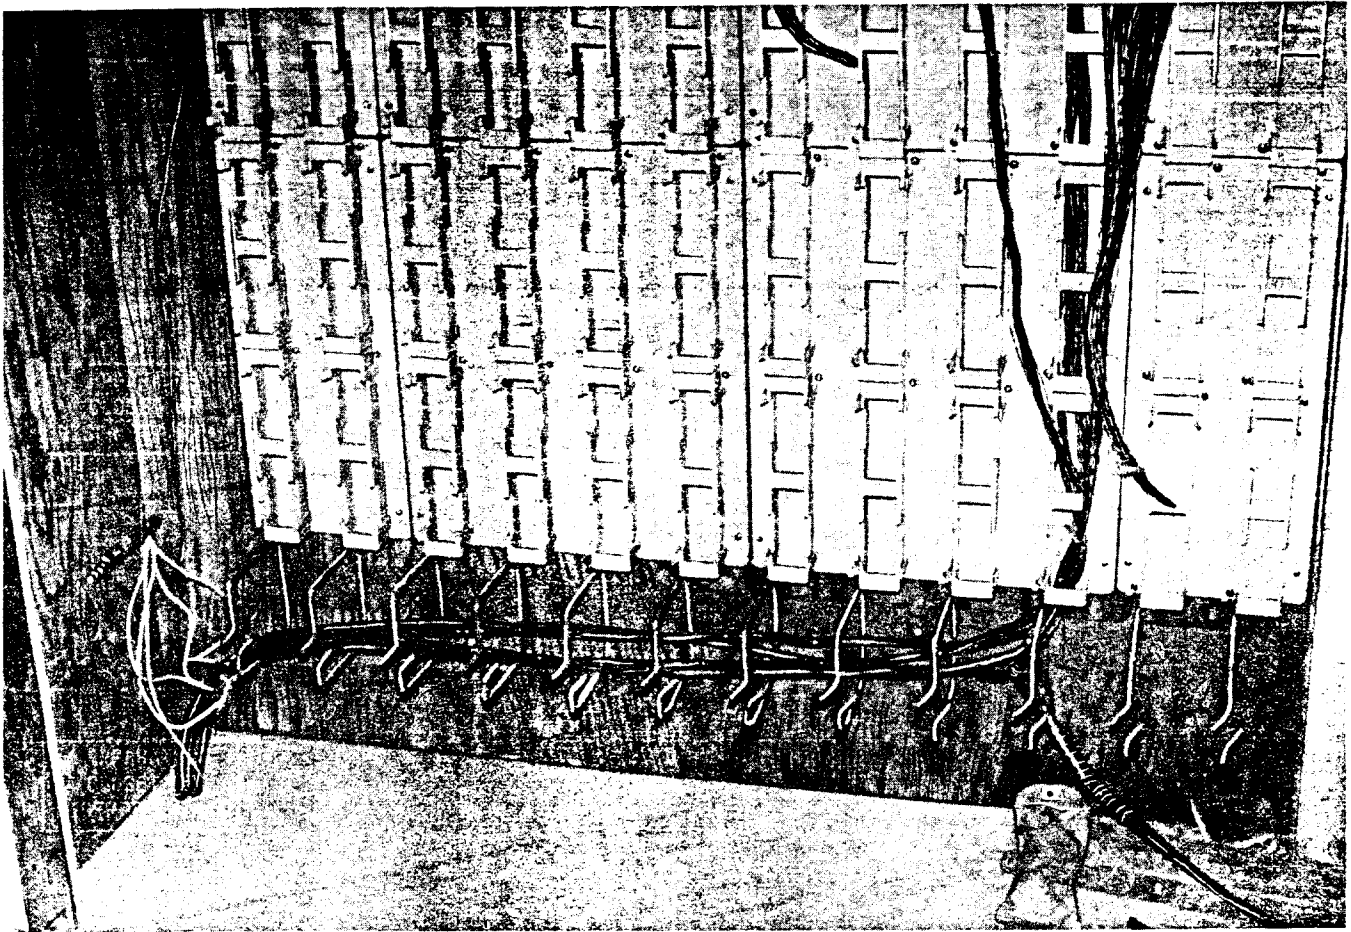

Fig. 8—Typical Termination Assembly with the Shields Bonded Away From the Cable Ends
3.05 Figure 8 shows a typical termination assembly with the shields bonded away from the cable ends.